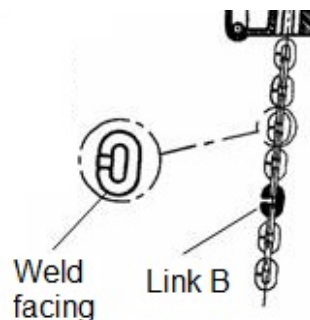

Figure 25 – Position of weld (chain links)
4. Hook the new chain link to link B, ensuring new chain link weld faces outward (Figure 25).